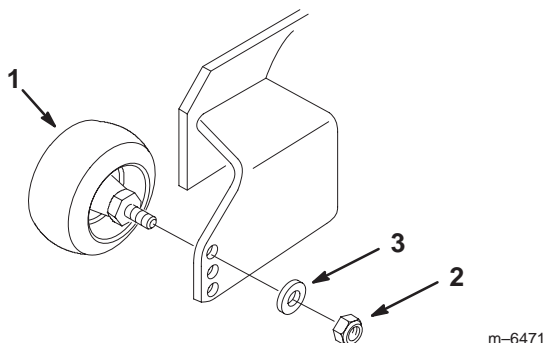

Figure 21
1. After adjusting height-of-cut, check the gage wheels so that there is a minimum of 3/8 inch (10 mm) clearance above the ground (Figures 21, 22, and 23).
2. If adjustment is needed, remove the bolt, washer(s) and nut (Figures 21, 22, and 23).
3. Select a hole position so the gage wheels are a minimum of 3/8 inch (10 mm) off the ground (Figures 21, 22, and 23).
4. Install the bolt, washer(s) and nut (Figures 21, 22, and 23).